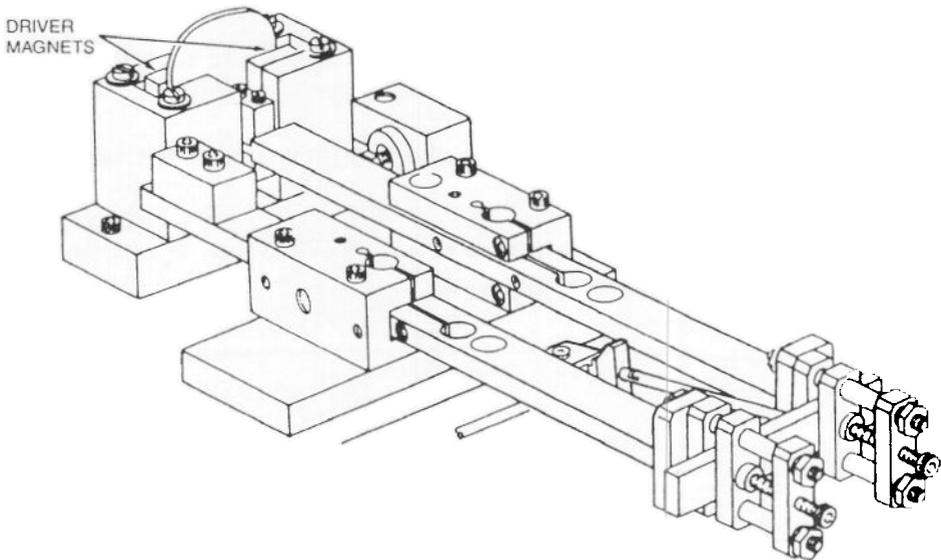

Figure 5.10
- Figure 5.10 on the next page shows the location of the driver magnets.